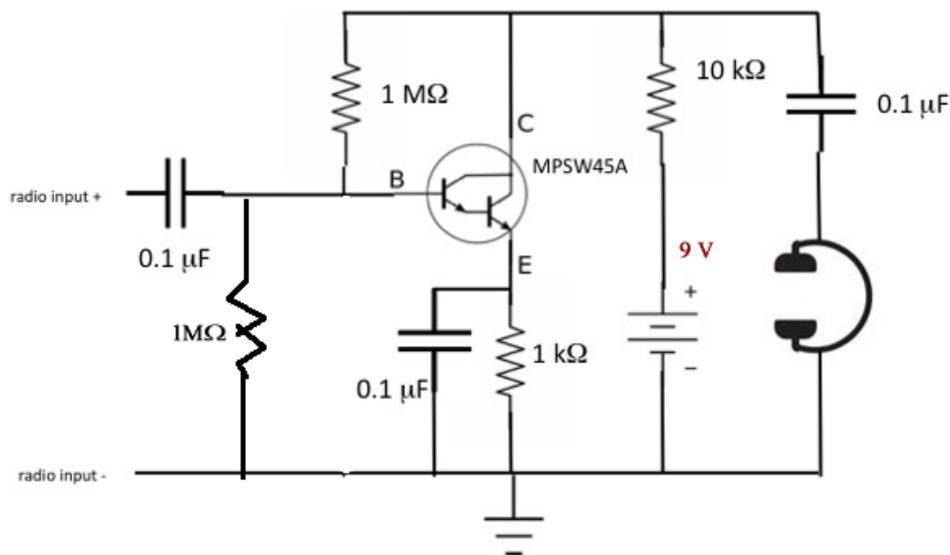

Fig. IX.2 Audio amplifier with high output impedance.
1. The circuit Fig. IX.2 has a high output impedance, and is well matched to your earpiece. Connect it up, using your crystal earpiece for the headphone. Have your instructor check it.